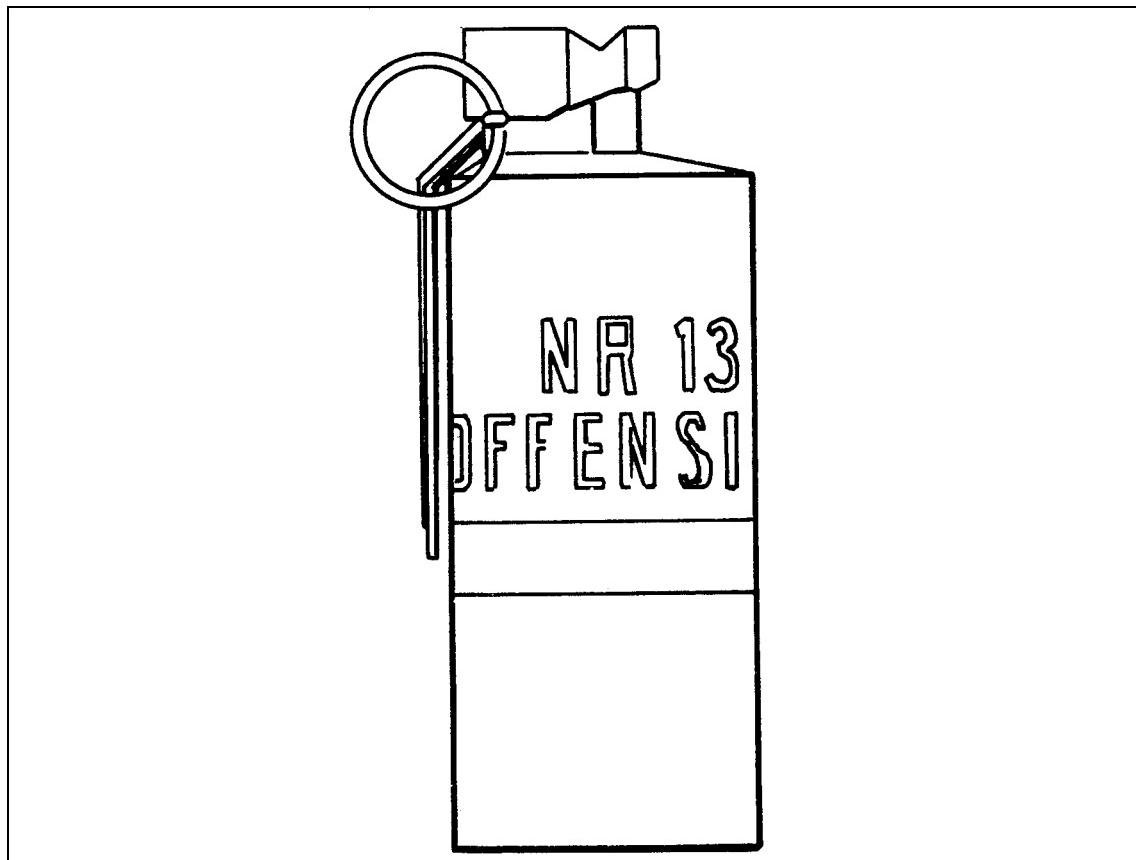

Figure F-2. NR13C1 fragmentation hand grenade.
- Type: Fragmentation, offensive. (Figure F-2)